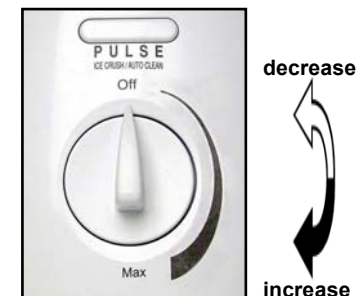

Fig. 4
3. Place the blender jar into position on the power base. (Fig. 4)